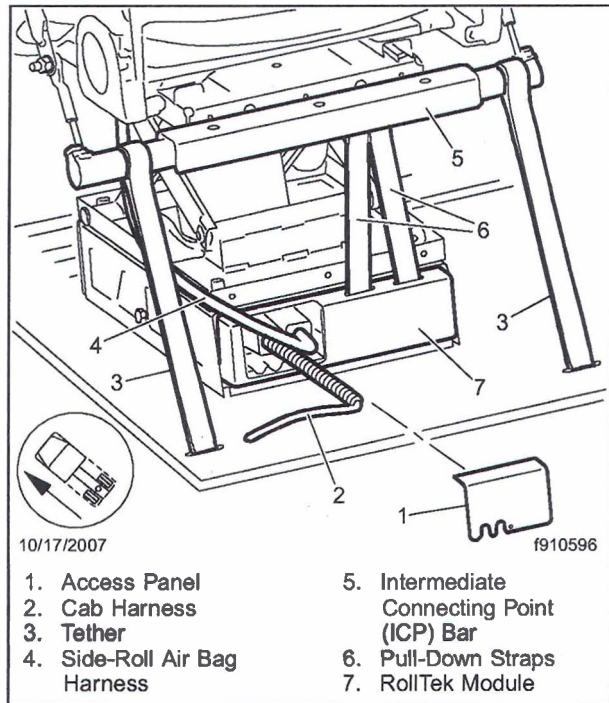

Fig. 1, RollTek Module Wiring Access
4. Remove the access panel from the back of the RollTek module. See **Fig. 1**.